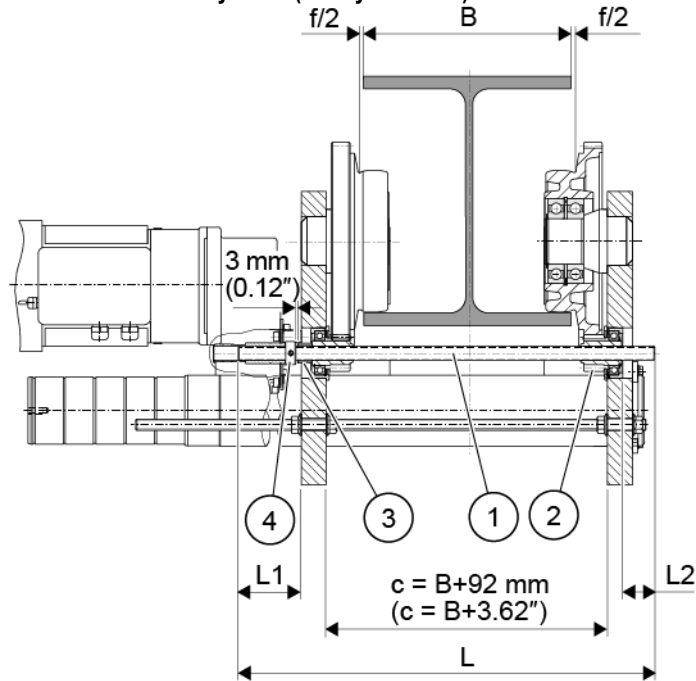

Fig. 19
3. Use connecting bolt and drive shaft suitable for beam range "B" (for dimensions, see Fig. 19).